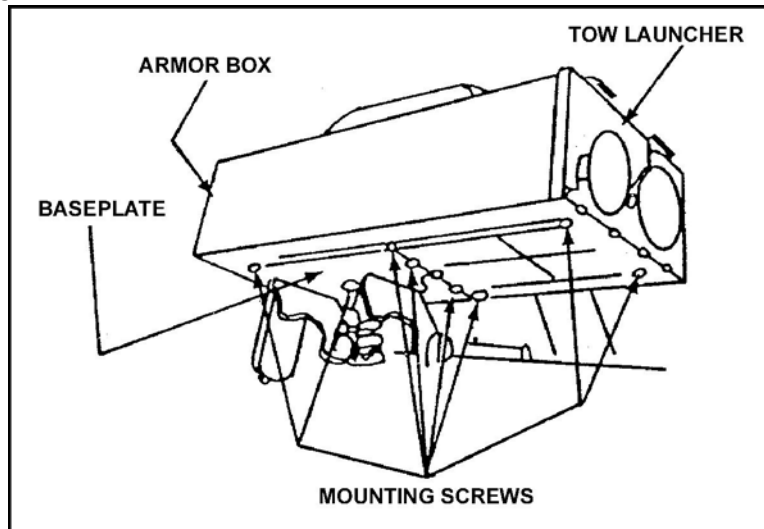

Figure 7. Cross hairs on target.
8. Center the reticle cross hairs on the target (Figure 7).